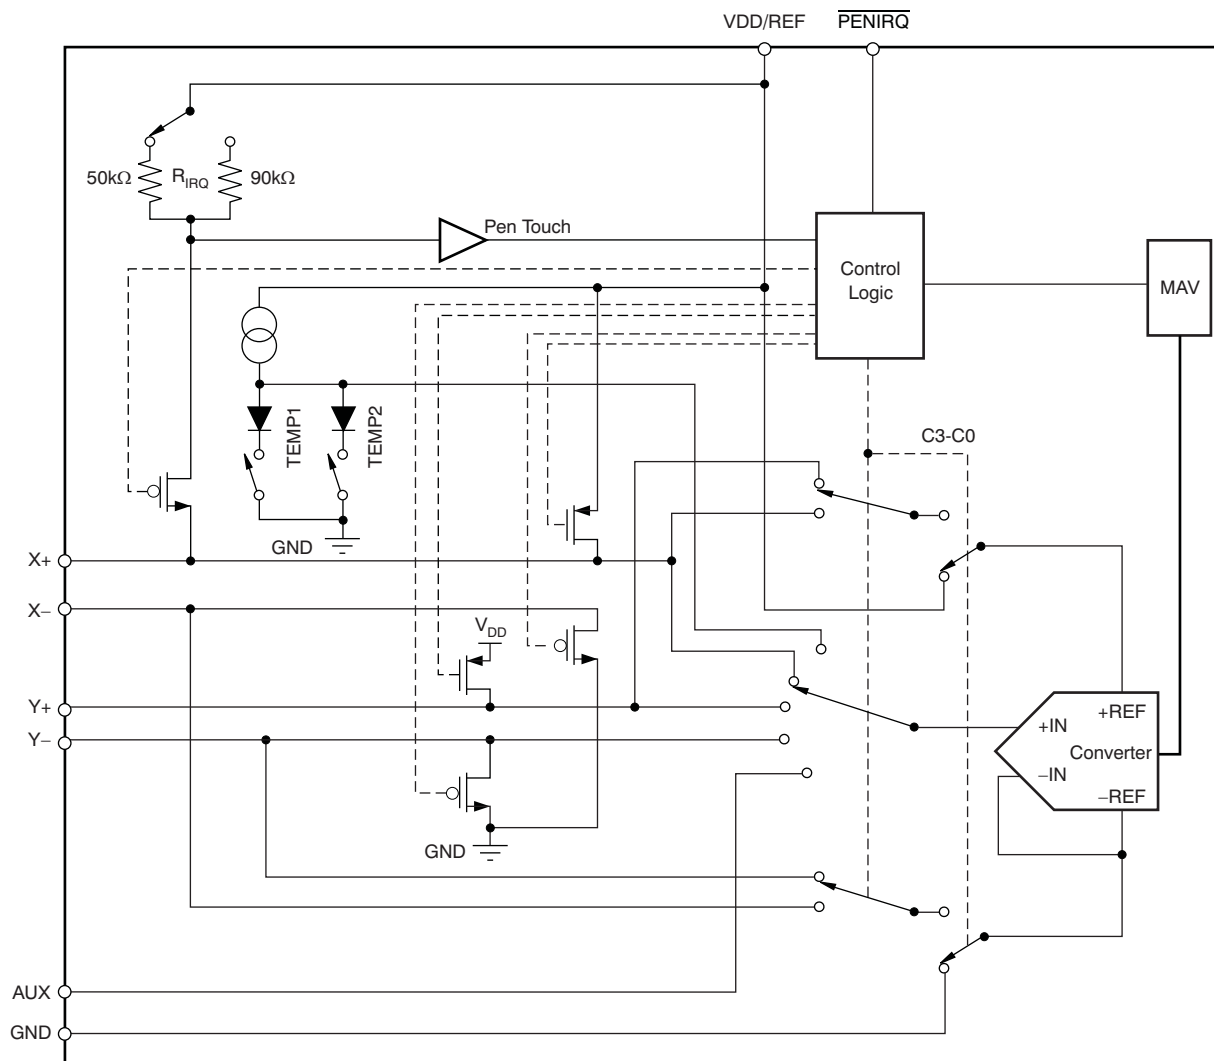

Figure 23. Analog Input Section (Simplified Diagram)
Figure 23 shows the analog inputs of the TSC2007. The analog inputs (X, Y, and Z touch panel coordinates, chip temperature and auxiliary inputs) are provided via a multiplexer to the Successive Approximation Register (SAR) A/D converter. The A/D architecture is based on capacitive redistribution architecture, which inherently includes a sample-and-hold function.
(1) Reference voltage at converter: +REF – (–REF). See Figure 23.
(2) Input voltage at converter, after multiplexer: +IN – (–IN). See Figure 23.